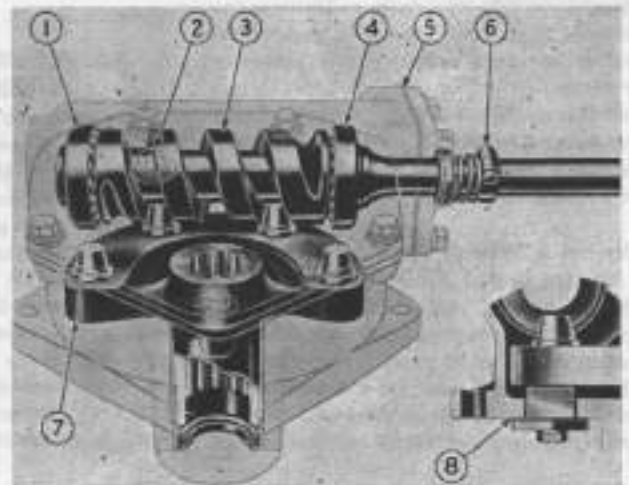
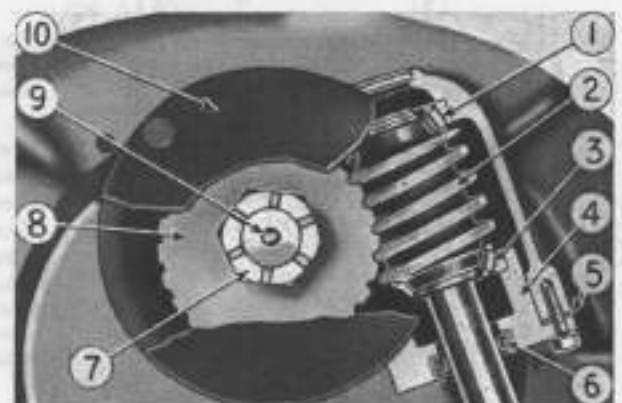

Fig. MH100—Ross cam and stud type steering gear.
Fig. MH101—Worm and gear type steering gear.
1. ADJUST PEDESTAL VERTICAL SPINDLE. All row crop models are provided with a nut at upper end of vertical spindle which functions to retain either a sector, a trunnion or worm wheel to the shaft splines, depending on the type of steering gear installed. The nut in a limited way controls the up and down play of the spindle. To gain access to the nut on some models, it will be necessary to remove the radiator. On all models, it is necessary to first remove the hood and the radiator grille. On models which have a cover plate over the gear, the cover plate is next removed and then the nut can be reached for tightening. On row crop models equipped with the multiple stud type of gear as shown in Fig. MH100, the upper half of the gear housing must be removed. Refer to Figs. MH101 and MH102 for worm and gear or sector types.
2. OVERHAUL PEDESTAL. To renew the pedestal bearings and/or bushings, the radiator must be removed but the pedestal can remain in place. Disconnect the steering gear wormshaft at the gear housing and on models equipped with a cover plate at the top of the gear, remove the cover plate. On models equipped with the multiple stud type of gear as shown in Fig. MH100, remove the upper half of the gear housing. Before removing the nut at the top of the vertical spindle, correlation mark the top of the shaft or spindle and the sector or wheel or stud trunnion in order that these parts can be reassembled to the same spline on the spindle. Jack up front of tractor and withdraw the vertical spindle or fork from below.
6. WORM (CAM) SHAFT END PLAY. On row crop tractors equipped with the Ross cam and multiple stud type gear shown in Fig. MH100, adjust worm (cam) shaft end play by varying the shims (5) located under cap at rear of gear housing.
7. BACKLASH. To adjust backlash, first remove the gear unit from the pedestal and proceed as follows: Remove a thin shim (8) from under adjusting pad, then temporarily reinstall the gear unit to the pedestal (including the nut at top of vertical spindle) and check the backlash by rotating the worm (cam) shaft. Adjustment is correct when there is no backlash, yet gear rotates without drag.
10. On worm wheel type gear unit shown in Fig. MH101, the wormshaft front bearing cup can be renewed after removing Welch plug from housing. Wormshaft rollers ride directly on worm which must be renewed if roller contacting surfaces of same are
11. On cam and stud type shown in Fig. MH100, the disassembly procedure is self-evident after examining the unit. Bushing for trunnion shaft is pre-sized and no final sizing of same will be required if new one is carefully installed using a closely piloted drift. Inner cones for camshaft bearings are integral with the camshaft which should be renewed if the bearing surfaces are pitted, chipped or scored. After gear is installed on tractor adjust the unit as per paragraph 6 and 7.
13. **WORM SHAFT.** Eliminate end play in worm shaft by removing shims (5—Fig. MH101) under end bearing cap (4). Shaft should have no end play but still should turn freely.
15. **WORM (CAM) SHAFT.** To adjust end play, release oil seal clamp (6—Fig. MH100) on steering shaft and slide assembly back on shaft. Remove shims (5) under housing end plate until end play is eliminated and shaft still turns freely. Reinstall oil seal after adjustment is complete.
16. **BACKLASH.** Disconnect steering worm shaft coupling and remove steering arm. Unbolt gear housing from top of axle support and remove housing from tractor. To eliminate backlash of studs in cam, remove shims (8) from under adjusting pad until a very slight drag is felt on steering shaft. Shims have different thicknesses—0.003, 0.007 and 0.010 inch.